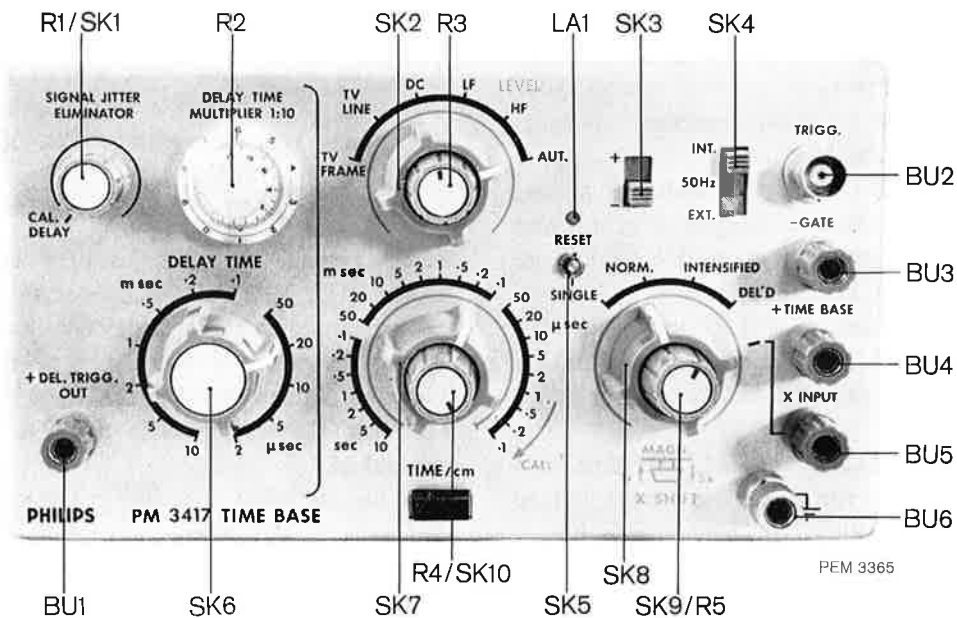

Fig. 6. Front view PM 3417
A. Time-base unit PM 3417 (see fig. 6)